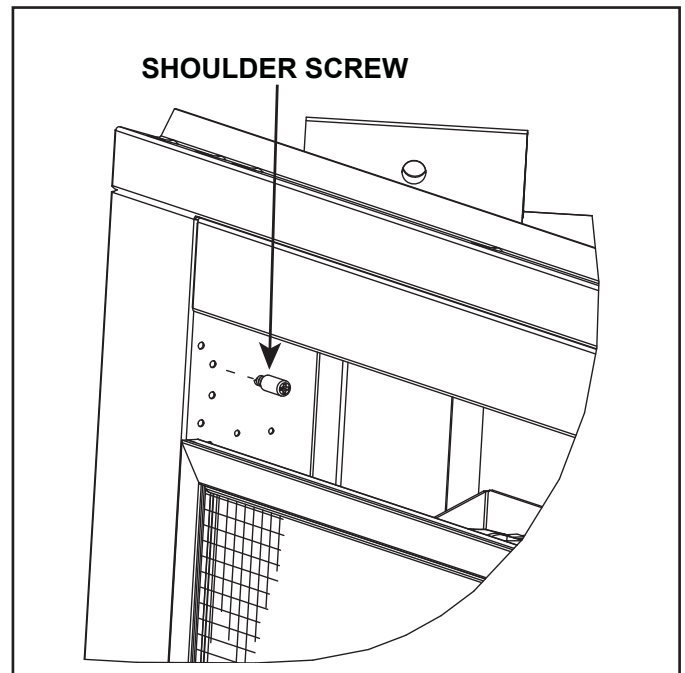

Figure 6. Install Screws into Pilot Holes
- Install the two shoulder screws that were removed in step 5 into the pilot holes located on the top left and right side columns of the appliance. See Figure 6.